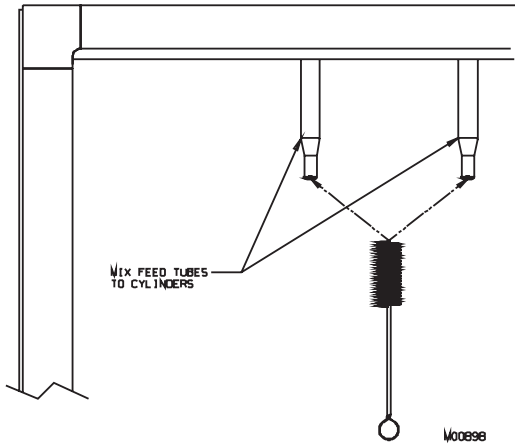

Figure 8-7 Brush inside of cylinder mix feed tubes
- a. mix feed tubes from the refrigerated cabinet to the cylinders as shown in figure 8-7